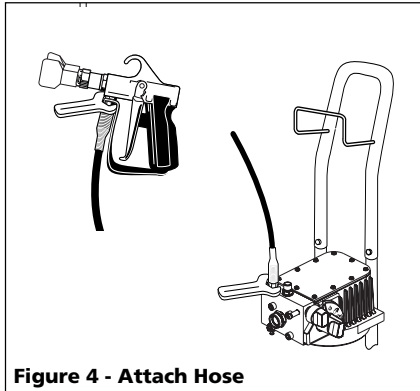

Figure 4 - Attach Hose
5. Attach high pressure hose to pump and spray gun using a 11/16" wrench (See Figure 4). Do not attach suction assembly at this time.